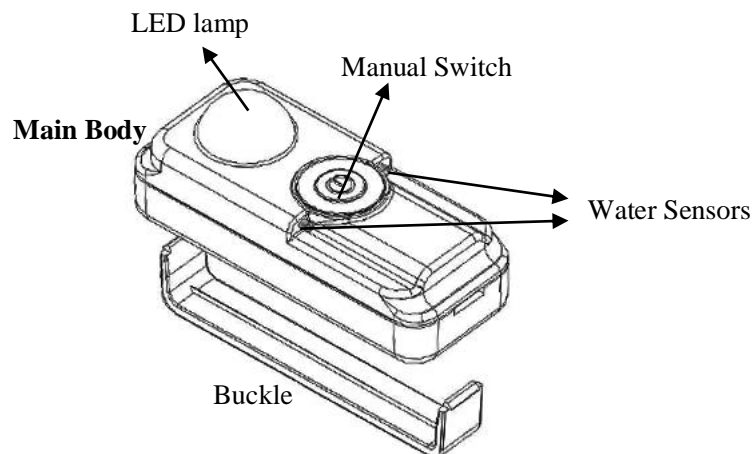

Figure 2-1 Product Structure
2.2.1 LNK-SL3 & LNK-SL3W lifejacket lights consist of Main body with battery\LED Lamp \Water sensors\Manual switch and installation buckle. The structure is shown as Figure2-1: